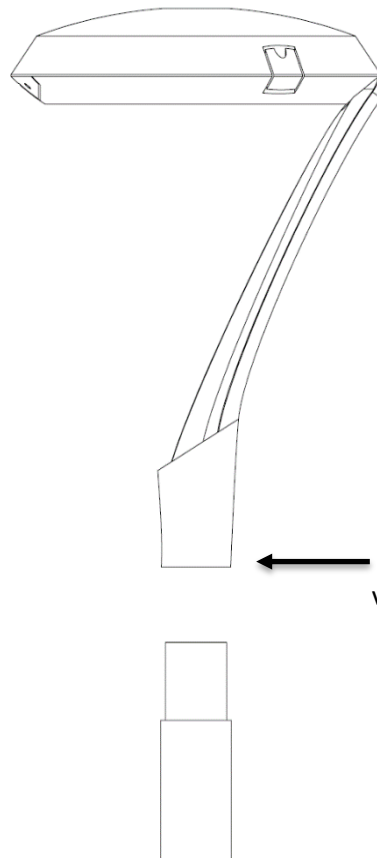

Figure 4
2. Loosen the set screws from the fixture. *Figure 4 & 5.*
4. Carefully place the fixture on a pole with a 2.375in (60.325mm) adapter. *Figure 4 & 5.*
5. Tighten set screws to secure fixture. *Figure 4 & 5.*